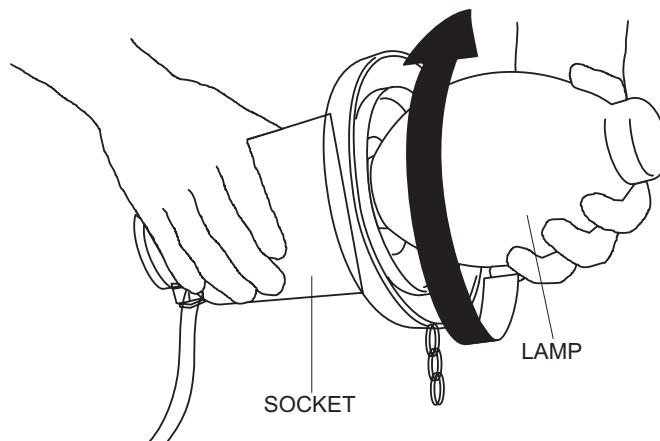

Figure 6. Installing the Lamp
Figure 6 shows the location of the controls and components for the GloBug 4-Spot. The functions of each control is described below:
1. Screw the lamp into the socket (use 400-watt metal-halide type lamp). Always allow a sufficient amount of time for the lamp to cool down before changing. See Figure 6.